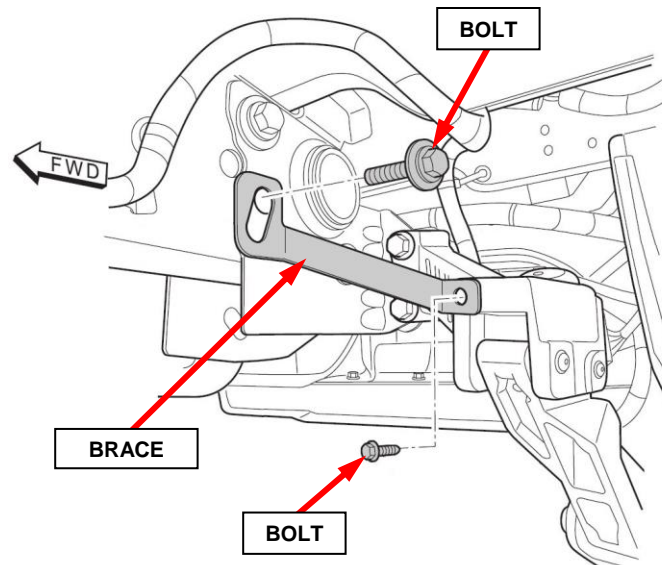

Figure 1 – Old Bed Step Brace
2. Remove and **DISCARD** the two bolts securing the bed step brace (Figure 1).
3. Remove the recalled bed step brace then render it unusable and **DISCARD**. (Figure 1).